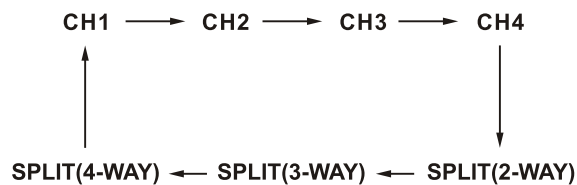

Figure 2: Source Select Sequence
- Pressing the **SELECT** button to sequence the source input modes as indicated in Figure 2.